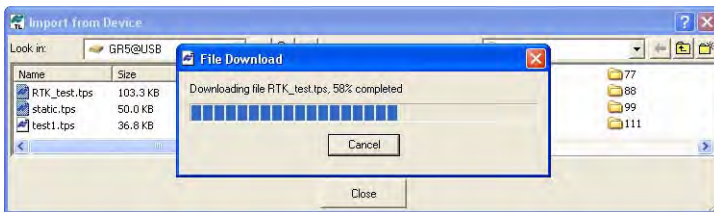

Figure 5-5. Select the Raw Data File to Import and View Import Progress
- In the right panel of the *Import From Device* window, navigate to and select, or create, a folder to save the files (Figure 5-5).
- To view the collected raw file, double click (or click *Select* in the pop-up menu) the receiver. To import the file(s) from the receiver to the computer and to save in the selected folder, highlight the file(s) and click the double arrows (Figure 5-5).
- The import in progress displays (Figure 5-5).